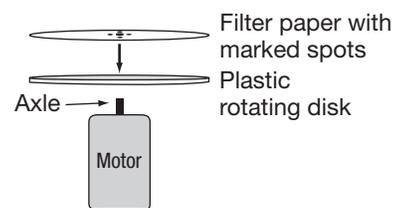

Figure 2.
- Place the plastic rotating disk (with a center hole) onto the exposed motor axle of the chromatography centrifuge. Set the filter paper on the disk. The axle should penetrate the center hole of the filter paper to secure the paper to the rotating disk. (See Figure 2.) *Note:* This avoids the use of tape to hold the filter paper, although that is an option if necessary.